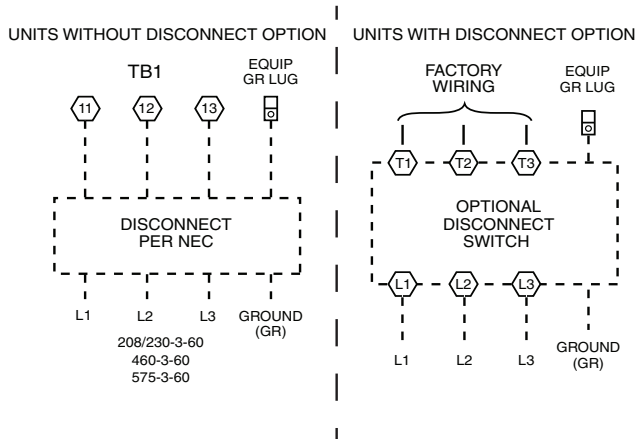

Fig. 35 — Power Wiring Connections
Size wire based on MCA (Minimum Circuit Amps) on the unit informative plate. See Fig. 35 for power wiring connections to the unit power terminal block and equipment ground. Maximum wire size is 2/0 AWG per pole.
3. Install power lines to terminal connections as shown in Fig. 35.